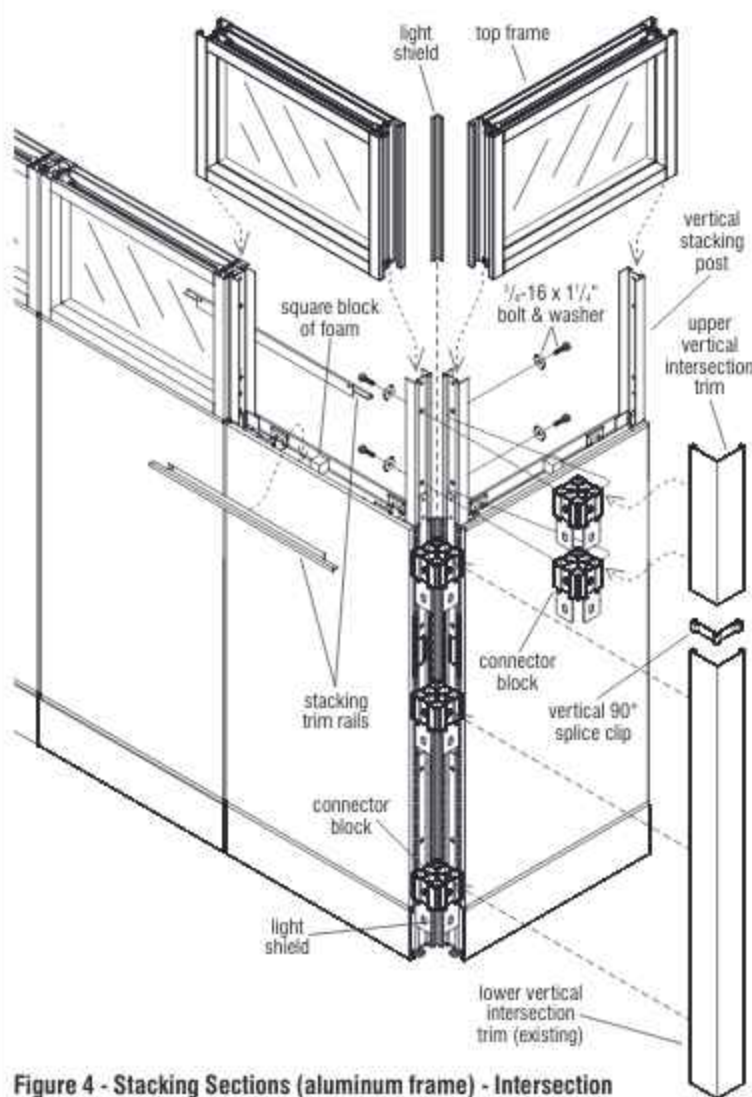

Figure 4 - Stacking Sections (aluminum frame) - Intersection
1. Loosely attach two connector blocks to one vertical stacking post at intersection. Use a  $\frac{3}{8}$ -16 x  $1\frac{1}{4}$ " hex head bolt and large flat washer to attach one connector block to the lowest mounting hole in the stacking post and one to the highest mounting location (Figure 4).
2. Loosely attach the second vertical stacking post to the two connector blocks on the first stacking post using  $\frac{3}{8}$ -16 x  $1\frac{1}{4}$ " hex head bolts and large flat washers (Figure 4).
3. Tighten all  $\frac{3}{8}$ -16 x  $1\frac{1}{4}$ " hex bolts securing vertical stacking posts to connector blocks at the intersection (Figure 4).
4. Cut the 48" light shield to match the height of the stacking section. Using the cut light shield, position the bottom of the shield at the top of the pre-existing light shield. Snap the light shield into the corner of each connector block such that you hear a "click", ensuring that the light shield is snug at each connector block (Figure 4).
1. Carefully slide the top frame down between the vertical stacking posts (Figure 4).
2. Stacking trim rails must fit between the top of the lower panel tile and the bottom of the top frame. Lift the top frame up a few inches then install two trim rails; one on each side of the panel. Ensure the large flange is oriented toward the center of the panel. Carefully lower the top frame onto the foam blocks. Remove the foam blocks to capture the trim rails in place (Figure 4).
3. Ensure each top frame is installed securely and even onto the lower panels. Alignment along the top of adjacent top frames must be even for trim to fit properly (Figure 4).
1. Lower vertical intersection trim should be hung back onto the connector blocks, then a vertical 90° splice clip must be slid into the top of the intersection trim. Upper vertical intersection trim then hangs onto the stacking section connector blocks and slides onto the top of the installed vertical 90° splice clip to keep it aligned (Figure 4).